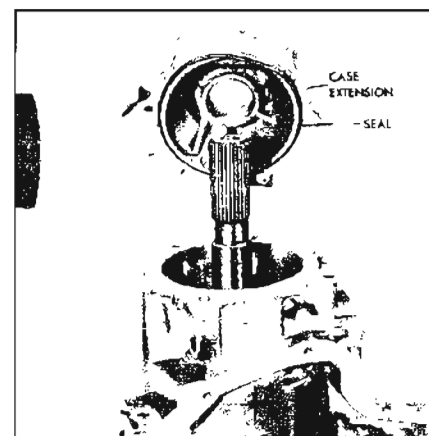

Figure 5-534
3. Remove the extension housing and extension housing to case seal. See Figure 5-534.